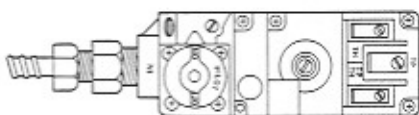

Figure 21
Step 3. Carefully bend and shape the flex connector so that a connection can be made to the adapter just mounted on the gas valve (Figure 21).